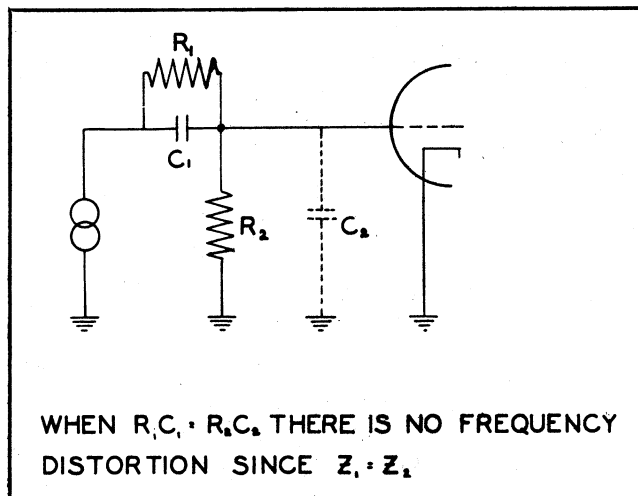

Figure 4-19. Frequency Equalizing Network
(6) The RC networks represented by R-317, C-312, R-314 and the grid-to-cathode capacitance of V-303 are a frequency equalizing network in order to obtain uniformity of response up to a high frequency. (See fig. 4-19.)